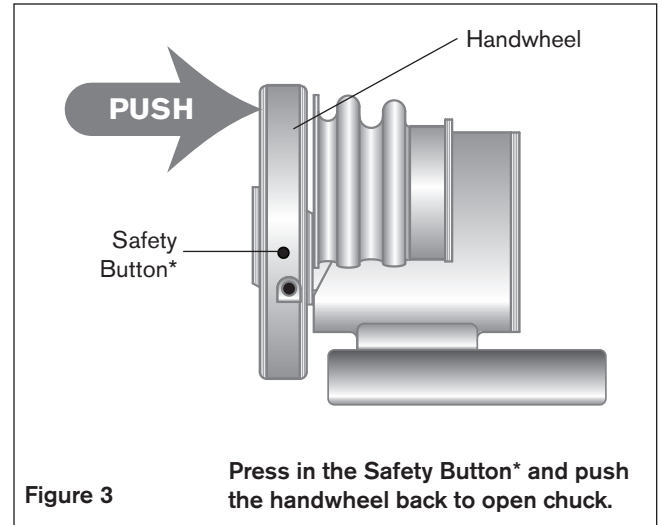

Figure 3
3. Open the Safety Chuck by pressing the safety button* and manually tilting the handwheel back, pressing with the palm of your hand (See Figure 3).